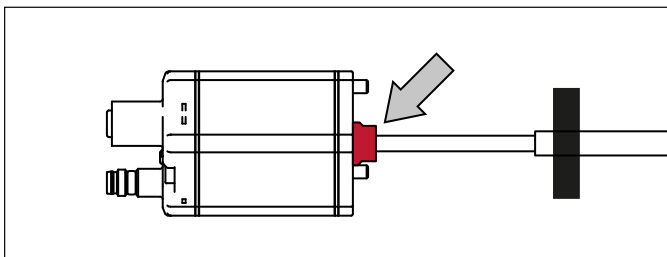

Fig. 34: Remove sealing before inserting into sensor rod HD/HL/HP
- The base unit is mounted by means of three screws. It is the only part that needs to be replaced if servicing is required, i.e. the hydraulic circuit remains closed. Before inserting the base unit into the sensor rod HD/HL/HP, remove the red sealing at the transition between the sensor electronics housing and the flexible sensor rod (Fig. 34). For more information see chapter “4.10.1 Replacement of base unit on the RH5/RFV/RF5 model” on page 50.